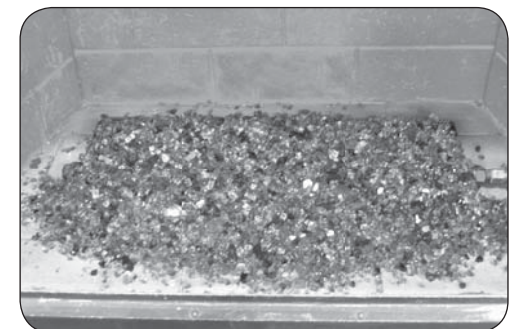

Fig. 8-5
2. Add additional glass / gems around the burner pan as desired (Fig. 8-5).